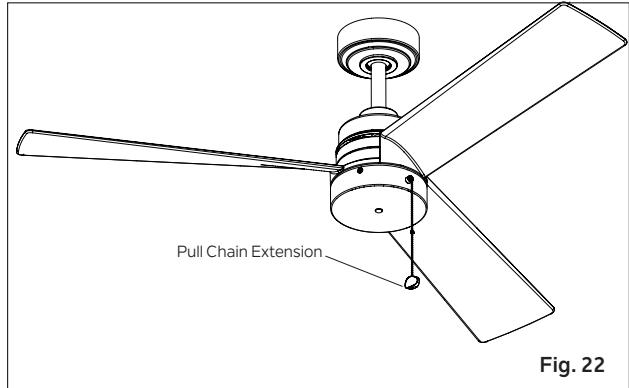

Fig. 22
Step 4. Install the pull chain extension. **(Fig. 22)**